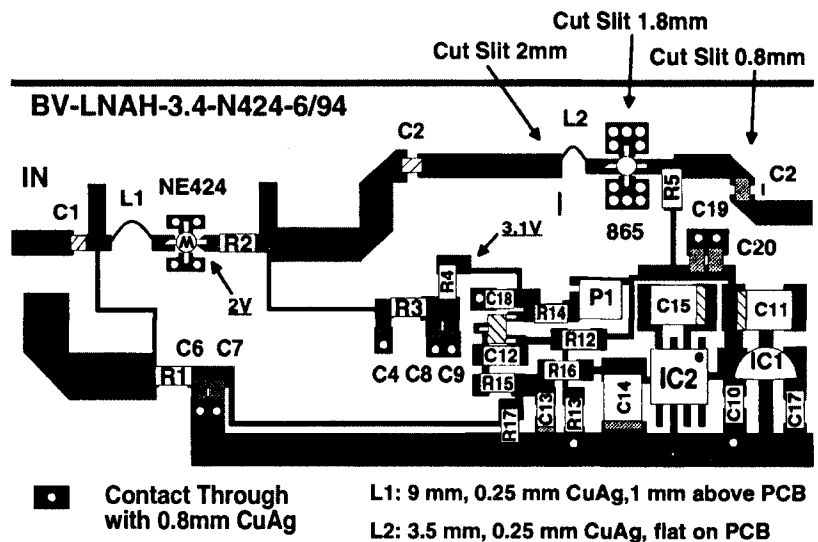

Fig 5—LNAH 3.4 N424/865 parts layout.
Refer to the parts layout in Fig 5 and construct as follows:
2. For L2, cut a 3.5-mm length of CuAg, 0.25-mm diameter wire (100-mil wire-wrap wire with the insulation removed). Form the wire into a half-circle loop as shown in Fig 5. Solder the wire loop into the circuit. The wire loop has to lie flat on the PC board, be flush with the end of the gate stripline and should be soldered at a right angle to it.